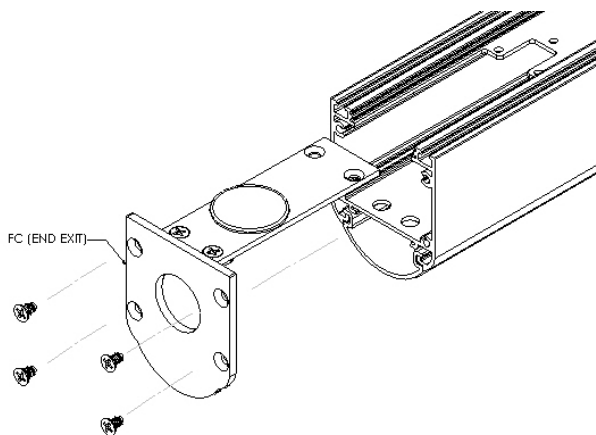

Fig. 2
2. Remove (4) #6 flat head screws securing end caps on both sides of fixture. Ref (Fig. 2).
3. Feed wires through fixture and connect 1/2" conduit through the 7/8" hole located in endcap. Ref (Fig. 2)